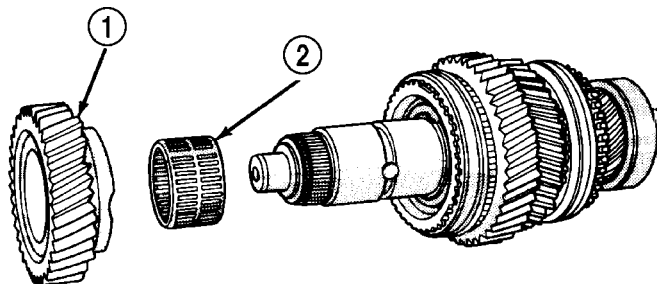

Fig. 40 SECOND GEAR AND NEEDLE BEARING
(6) Remove second gear and needle bearing (Fig. 40).